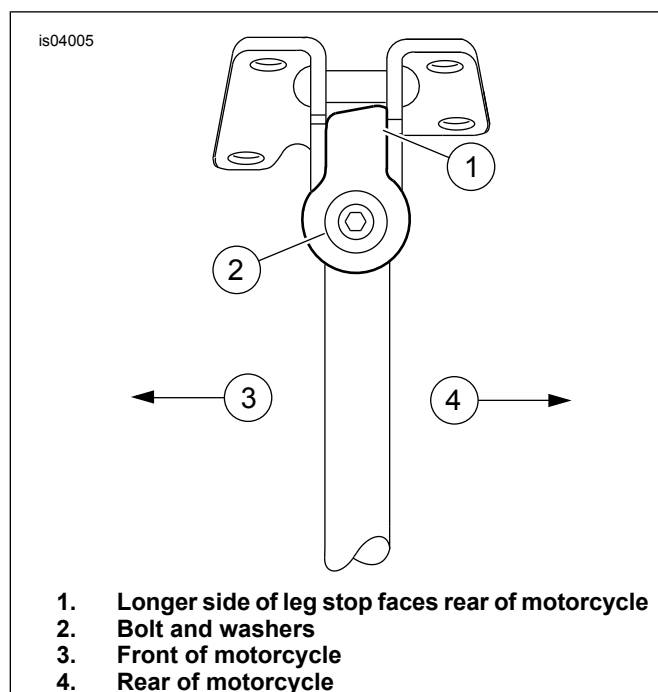

Figure 2. Leg Stop Orientation (Full Forward Position)
4. Assemble the new jiffy stand leg assembly (2) from the kit to the mounting bracket on the motorcycle. Holding the jiffy stand at the full forward (down) position, install the leg stop (E) over the square end. Be sure the stamped "DOWN SIDE" text on the leg stop is facing down. Verify that the longer side of the leg stop faces the rear of the motorcycle (see Figure 2). Secure with the flat washer (D), lockwasher (C), and bolt (B) removed earlier.